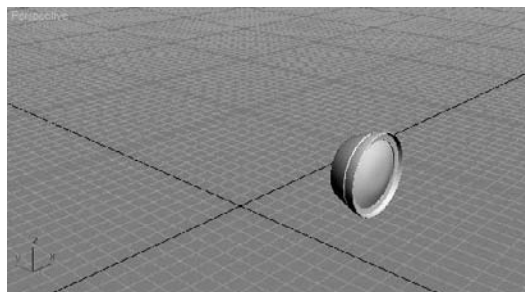

Figure 5.74
5. Go back to the Lathe parameters and change Segments to 20. This will help the thruster look less faceted than it does right now, but it will look a bit chunky on the edges. Don't be too concerned with that; the thrusters will not be seen that close in this scenario. Use the Segments parameter to make your lathes look only as smooth as needed for your shot, as shown Figure 5.74.